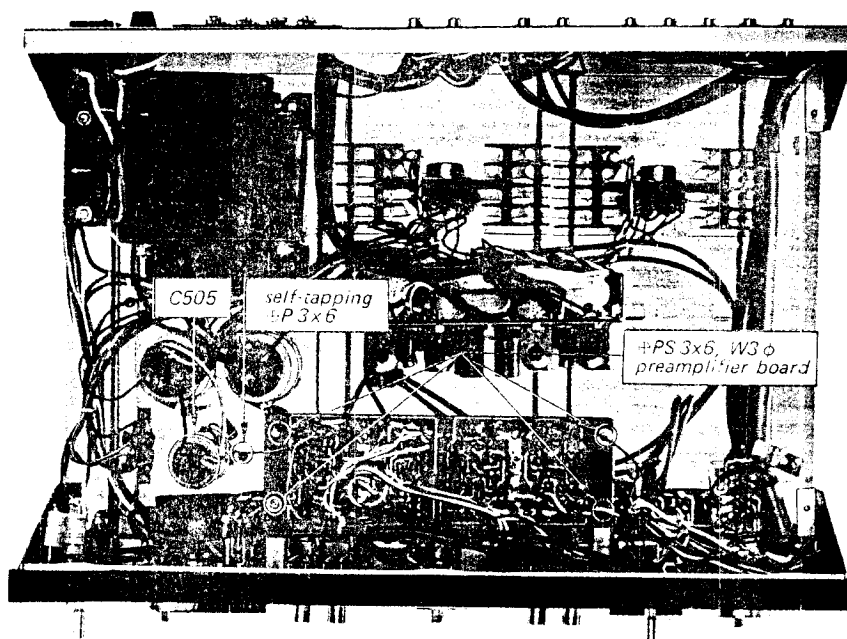

Fig. 2-6 C505 removal and preamplifier removal
3. Remove the self-tapping screw ($\oplus$ P 3x6) securing electrolytic capacitor C505 (Fig. 2-6) to the bottom plate, if necessary, then remove the capacitor.
1. Remove the preamplifier board by loosening the four screws ($\oplus$ PS 3x6) securing it to its mounting bracket. See Fig. 2-6.